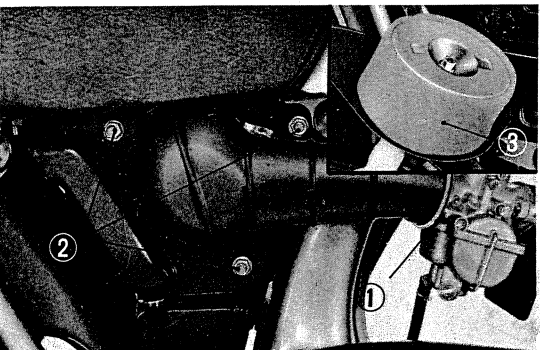

Fig. 8 ① Air cleaner connecting band ② Nut
- 2) Unfasten the band securing the cleaner to the carburetor. Remove three nuts and take out the filter element. Clean the element in solvent or gasoline and dry with compressed air. Refer to page 9. (Fig. 8)